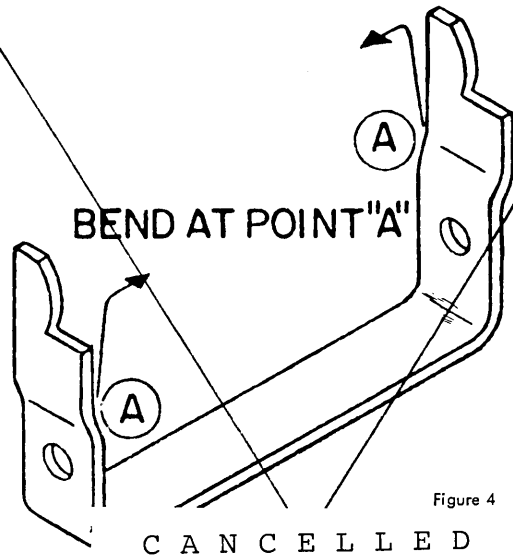

Figure 4
- B Check for binding armature by manually depressing the armature and watching for full closure of the contacts. Form ears (Figure 4) at the end of the restoring bail for free operation. Check the operating contact mounting screws for snugness.